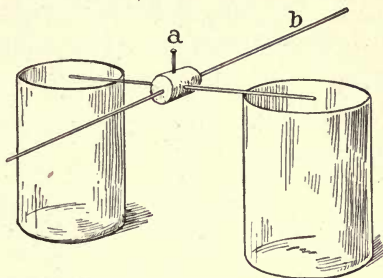

FIG. 159. — A Homemade Dipping Needle.
**Experiment 53.** — Pass two unmagnetized knitting needles through a cork near the center and at right angles to each other (Figure 159). With a pin (*a*) the system may be adjusted so that it will be perfectly balanced.